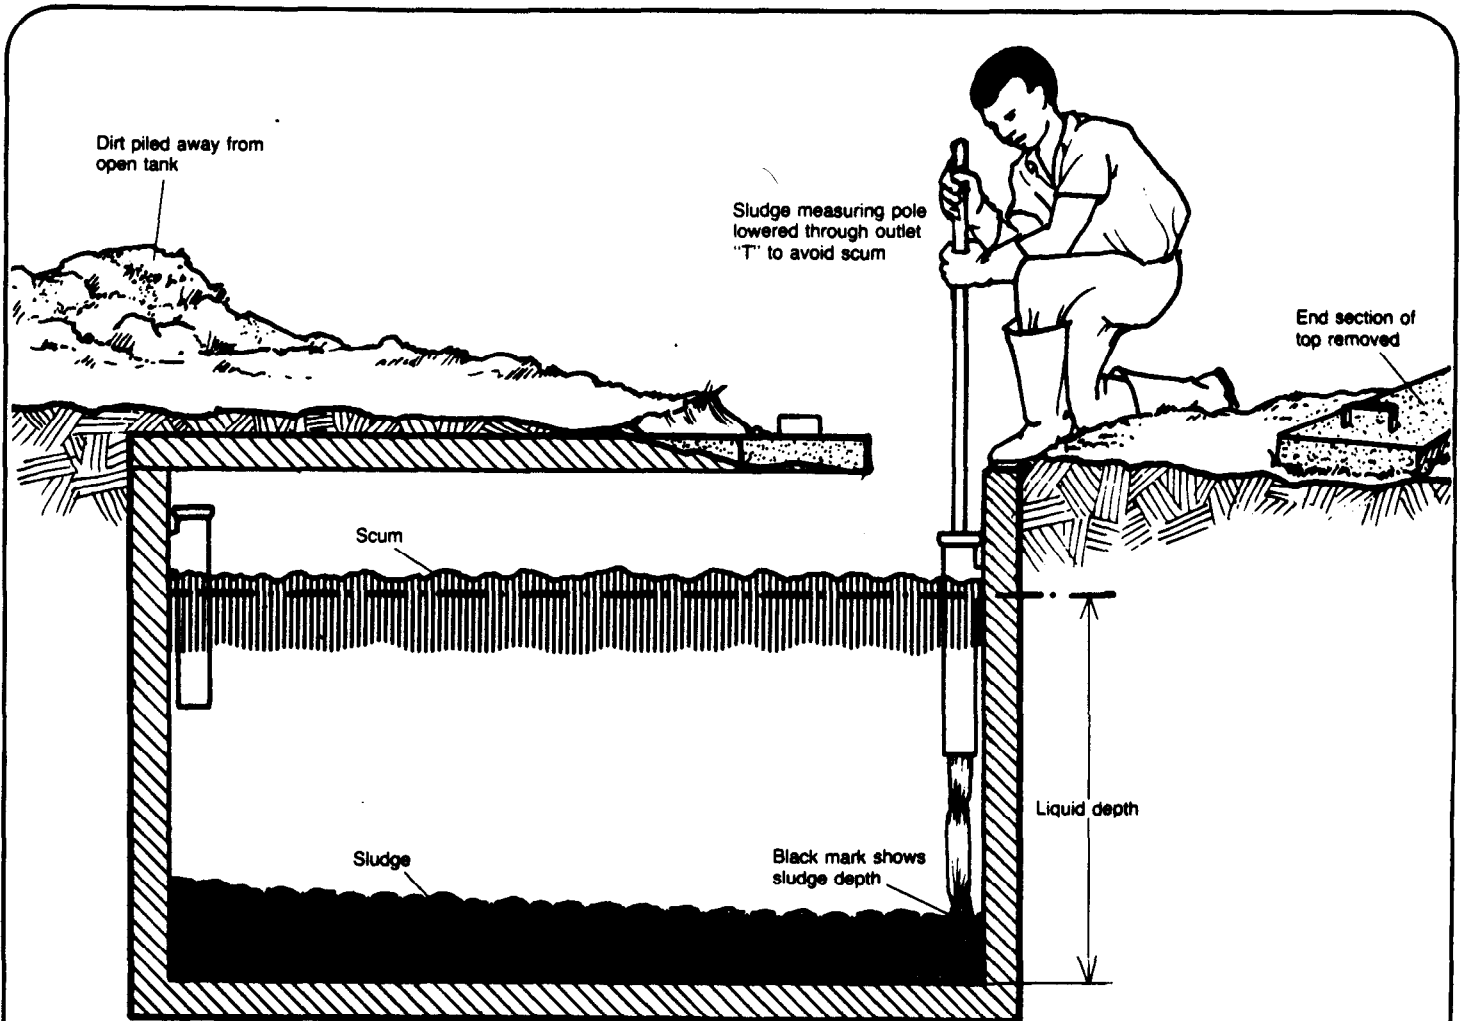

Figure 3. Measuring Sludge Depth
2. To avoid the scum, lower the measuring pole through the "T" fitting to the bottom of the tank as shown in Figure 3.